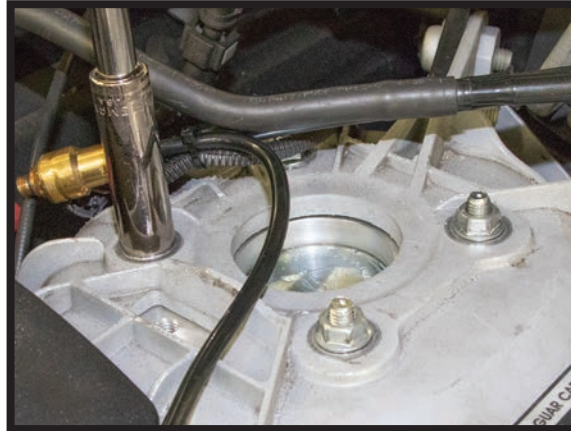

FIGURE 12
5. INSTALL TOP MOUNTING NUTS. (FIGURE 12)